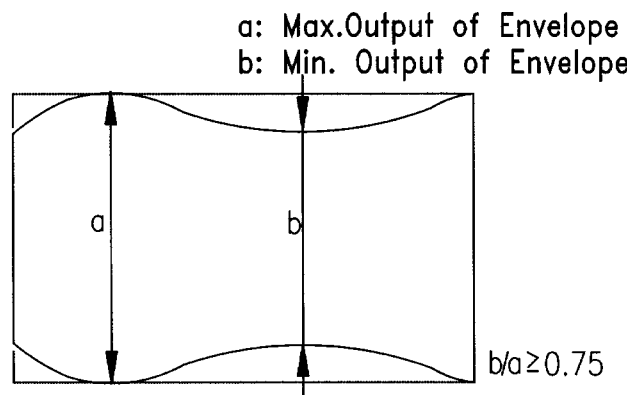

Fig. 15 Linearity Adjustment
5. Adjust the VR Control on the Path Adj. Fixture so the envelope (FM) signal of the Alignment tape is maximum.
6. Adjust the S/T guide rollers so that the envelope (FM) signal waveform at the entrance and exit sides are as shown in Fig. 15.